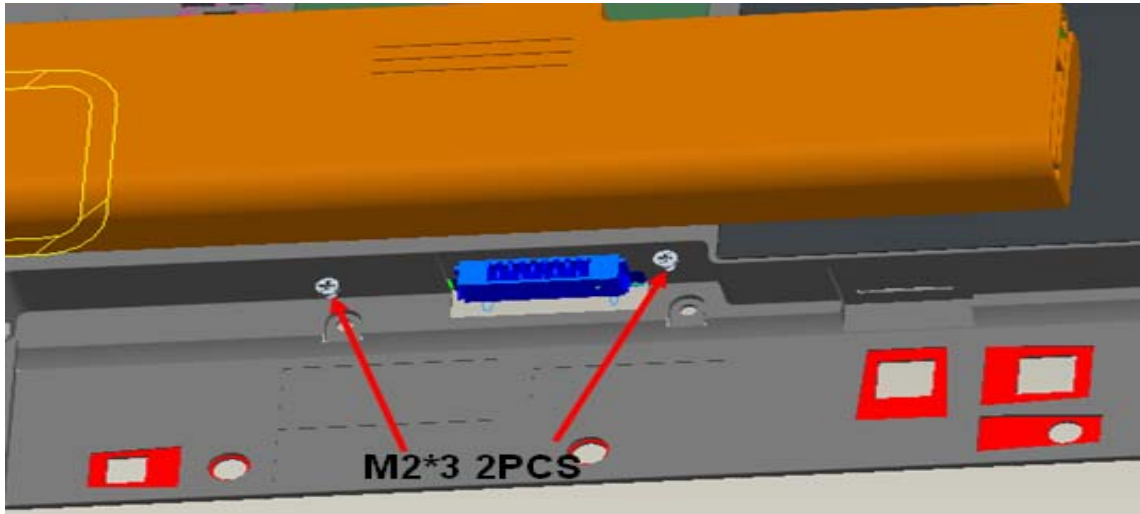

Figure 4-5-1 Remove 2 screws for KB Holder
The following describes the procedure for removing the keyboard (See Figure 4-5-1 to 4-5-2).
5. Disassemble **KB Holder** and **KB** screws (See Figure 4-5-1)